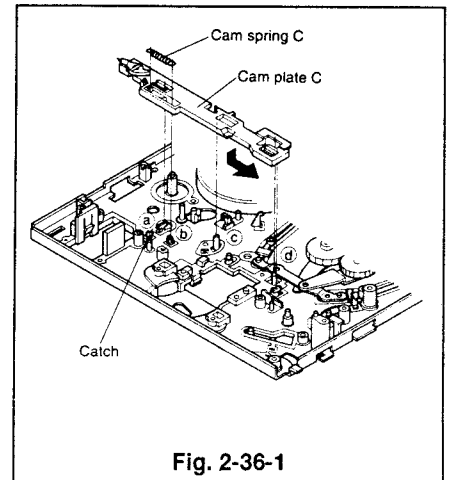

Fig. 2-36-1
- ① Remove the reel belt and the belt pulley. (Refer to Para. 2-28 for the removal method.)
- ② Remove the reel idler assembly. (Refer to Para. 2-35 for the removal method.)
- ③ Remove the loading motor assembly (which holds the motor holder). (Refer to Para. 2-29 for the removal method.)
- ④ Remove the main gear-J. (Refer to Para. 2-30 for the removal method.)
- ⑤ Remove the plate-J, the roller-B, and the cam plate-B. (Refer to Para. 2-33 for the removal method.)
- ⑥ Remove the cam spring-C. (Refer to Fig. 2-36-1.)
- ⑦ Slide the cam plate-C to the left end.
- ⑧ Unfasten the catch and raise the cam plate-C to remove it. (refer to Fig. 2-36-1.)
- ② Position the cam plate-C so that the four points (a), (b), (c) and (d) shown in Fig. 2-36-1 enter into the matching holes and slide it to the right end.
- ③ Install the cam spring-C.
- ④ Install the cam plate-B, the roller-B, and the plate-J.